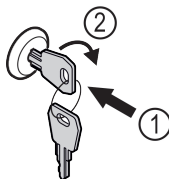

Fig. 205
- Insert the key. Fig. 205 (1)
- Turn the key clockwise by 90°. Fig. 205 (2)